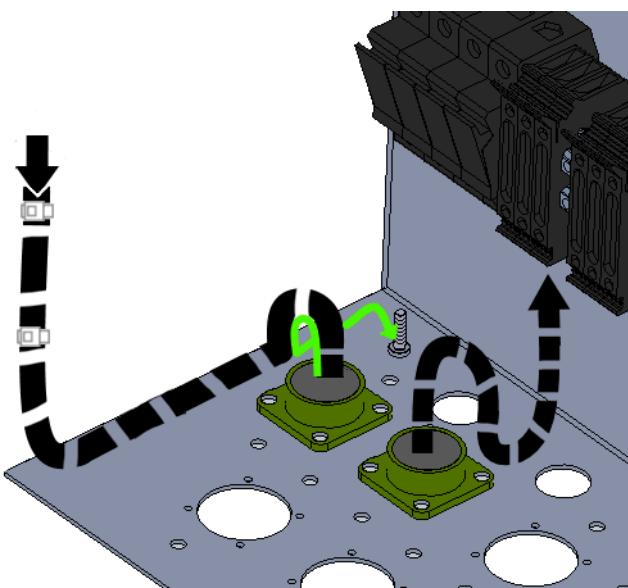

**Figure 4 Attach Wires to Control Module**
Step 5. Attach the eight-pin harness wires according to the table in *Figure 4* as required for your specific secondary input voltage option. See *Table 1* for SIV-specific wiring. Note that the Z-side wires have white heat shrink on the ring terminals.